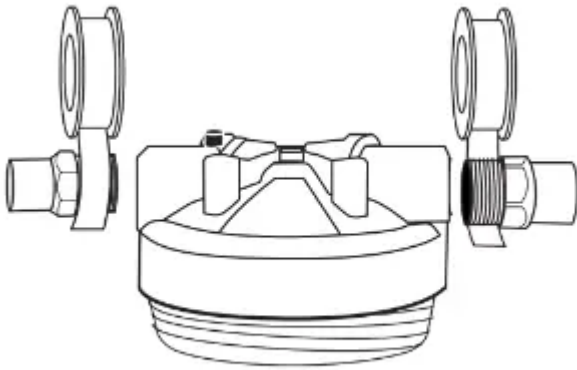

Figure 1
3. Wrap Teflon® tape (2 1/2 wraps) around the 1" male x 1" street adapter in a clockwise direction (See Figure 1) and screw firmly to filter head. Do not use pipe solvent (dope), as solvents in some types of pipe dope may cause damage to plastic fittings. Do not overtighten, overtightening can cause damage to filter head.